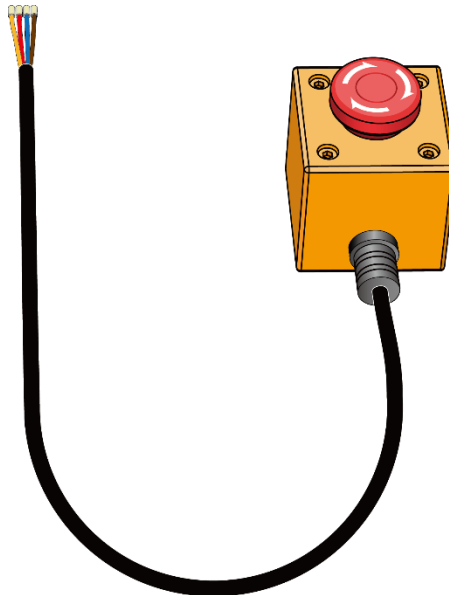

Figure 5.21 Emergency stop
- Step 2** Hold down the emergency stop button, to make the Dobot M1 in the stopped status, as shown in Figure 5.21.